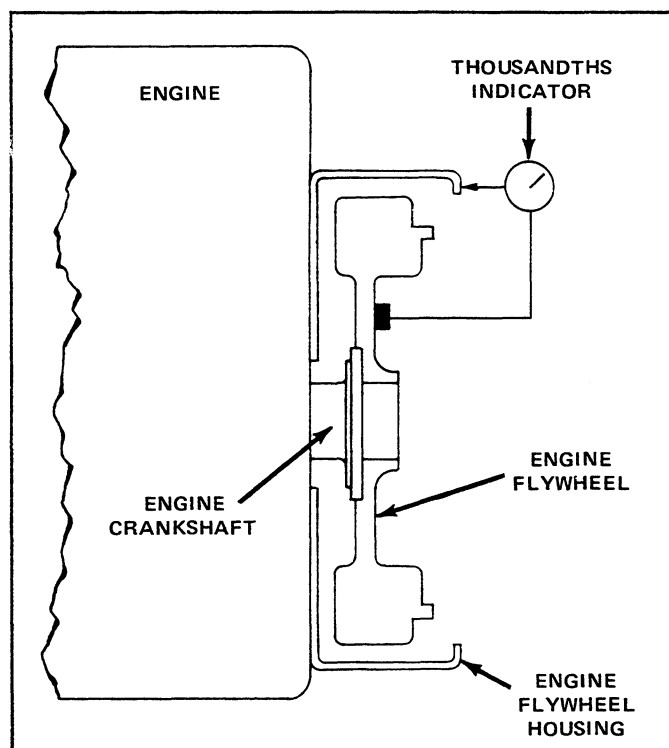

Figure 9-8. Checking the Face of Engine Flywheel Housing.
1. Bolt a thousandths increment dial indicator or gauge to the engine flywheel so that the indicator is perpendicular to the face of the engine flywheel housing, and the indicator stem is riding on the face of the flange. See Figure 9-8.